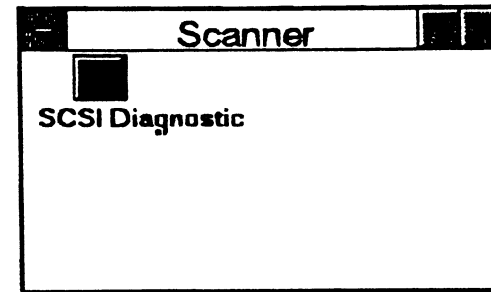

Figure 9
1. Select the Windows Program Manager, activate the scanner folder (see Figure 9).